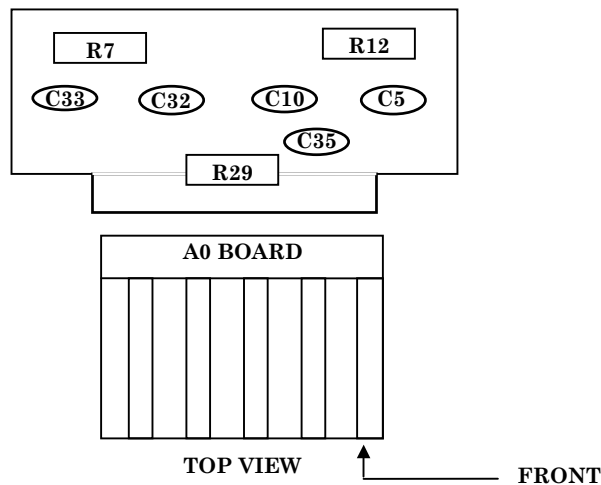

Figure 3. Input board - adjustment locations.
- (2) Connect **TI OUTPUT HIGH** to **INPUT HIGH** and **LOW** using tee connector and two cables.
- (3) Press keys and enter values using **DATA ENTRY** keys as listed in (a) through (g) below:
- (4) Adjust spectrum analyzer controls to observe a 1 kHz signal.
- (5) Alternately adjust A0R29 and A0C35 (fig. 3) for minimum indication on spectrum analyzer (R).
- (6) Press **SPCL** key and enter **27 ENTER** using **DATA ENTRY** keys. Adjust A0R12 (fig. 3) for minimum indication on spectrum analyzer.
- (7) If <-75 dB was not achieved in (5) or (6) above, then alternately adjust A0C5, A0C10, and A0R12 (fig. 3) for minimum indication on spectrum analyzer (R).
- (8) Press **SPCL** key and enter **26 ENTER** using **DATA ENTRY** keys.
- (9) Adjust A0R7 (fig. 3) for minimum indication on spectrum analyzer (R).
- (10) If <-75 dB was not achieved in (9) above then alternately adjust A0C32, A0C33, and A0R7 (fig. 3) for minimum indication on spectrum analyzer (R).
- (11) Disconnect spectrum analyzer from equipment setup.
- (12) Disconnect TI **OUTPUT HIGH** from **INPUT HIGH** and **LOW**.
- (13) Connect TI **OUTPUT HIGH** to **INPUT HIGH** and connect **OUTPUT LOW** to **INPUT LOW**.
- (14) Press keys and enter values using **DATA ENTRY** keys as listed in (a) through (l) below:
- (15) Adjust A0C5 (fig. 3) for a 100.0 percent indication on TI (R).
- (16) Press **SPCL** key and enter **26 ENTER** using **DATA ENTRY** keys.
- (17) Adjust A0C32 (fig. 3) for a 100.0 percent indication on TI (R).
- (18) Reverse **INPUT HIGH** and **LOW** connections and repeat (13) above.
- (19) Adjust A0C10 (fig. 3) for a 100.0 percent indication on TI (R).
- (20) Press **SPCL** key and enter **26 ENTER** using **DATA ENTRY** keys.
- (21) Adjust A0C33 (fig. 3) for a 100.0 percent indication on TI (R).